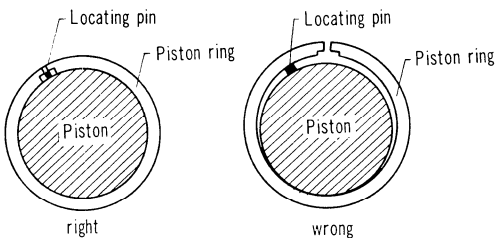

Fig. 5-5-23
C. Align the piston ring open ends with the piston ring locating pin set in the piston ring groove. (Fig. 5-5-23)